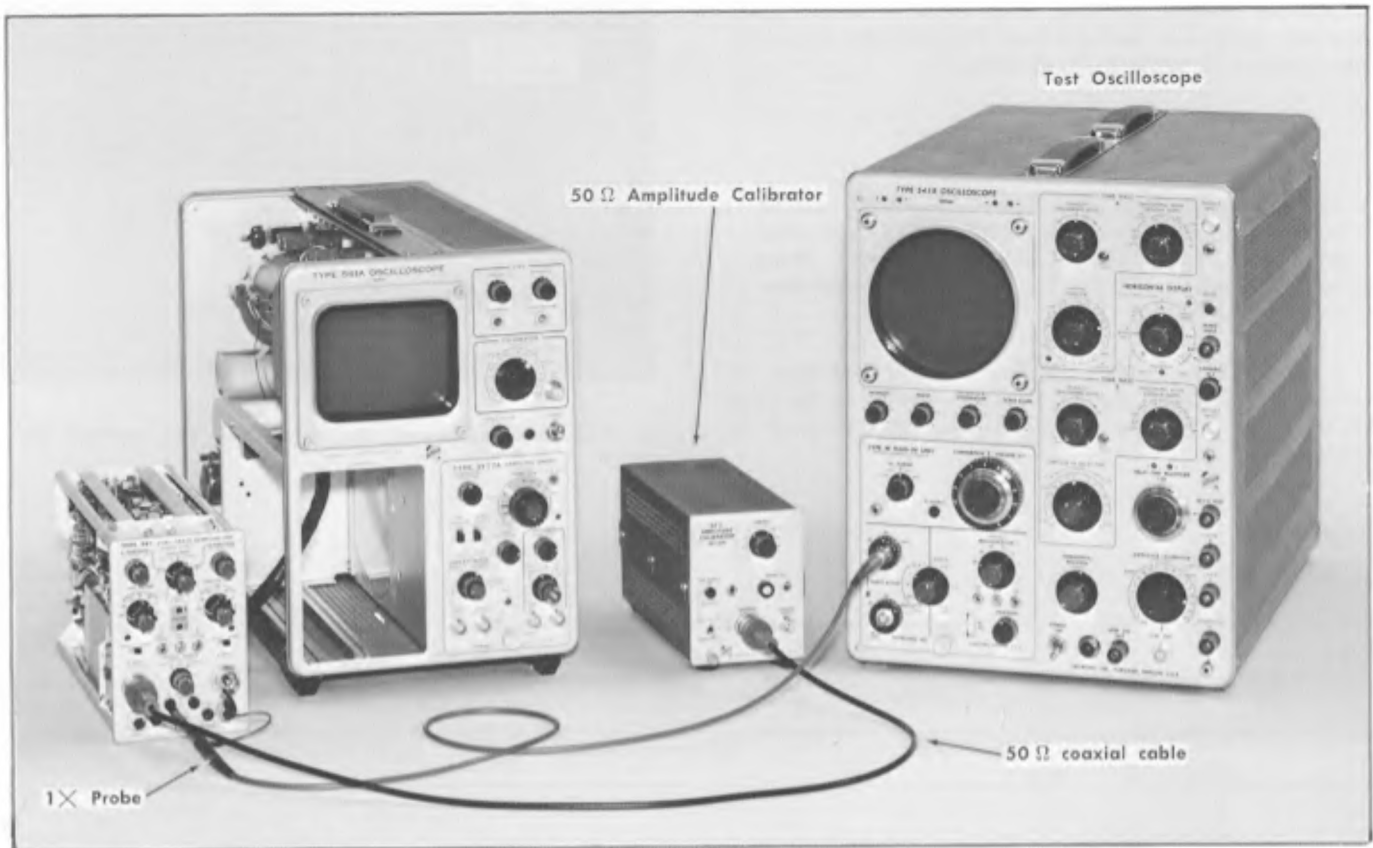

Fig. 8-27. Equipment and connections used in Step 22. Same equipment used in Step 23.
a. Make the connections and control settings called out following Fig. 8-27. Set the Type 3S1 Channel A DC OFFSET control so the test oscilloscope free run trace rests at zero volts.